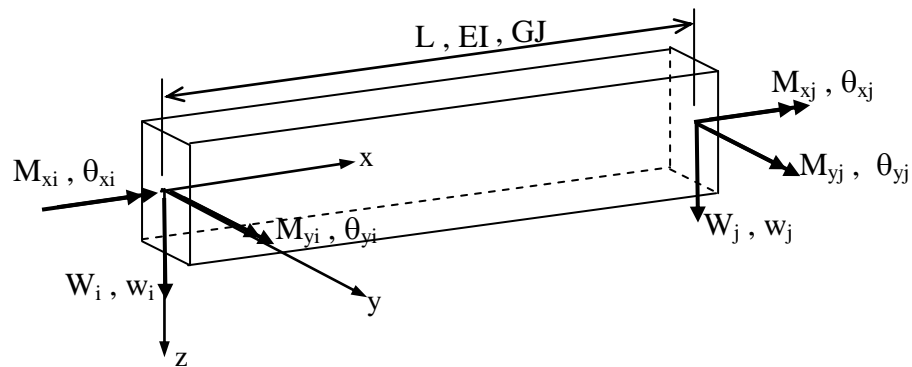

Figure 6
- (b) Explain how a structural member in a grillage transfer loading. Stiffness equation for a grillage element as shown in Figure 6 in local coordinate system is given as follows: